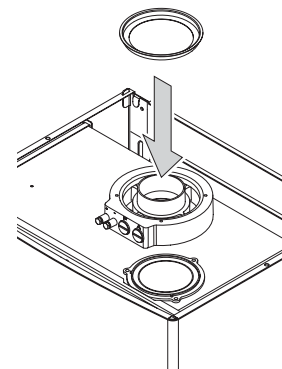

Fig. 5/a
2.7.1 Accessories 60/100 (fig. 5)
The diagrams of fig. 5 illustrate some examples of different types of discharge modalities allowed and the maximum lengths that can be reached.
2.7.2 Diaphragm for 60/100 coaxial duct (fig. 5/a)
The boiler is supplied with a diaphragm of $\varnothing 79$. Use the diaphragms according to the indications of fig. 5/a.